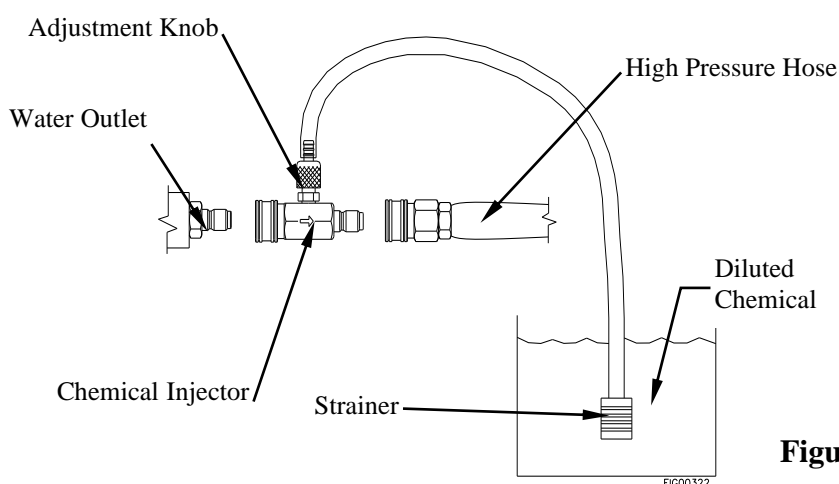

Figure 10
3. Snap the quick couple chemical injector onto the water outlet, then snap the high pressure hose onto the chemical injector. See Figure 10.